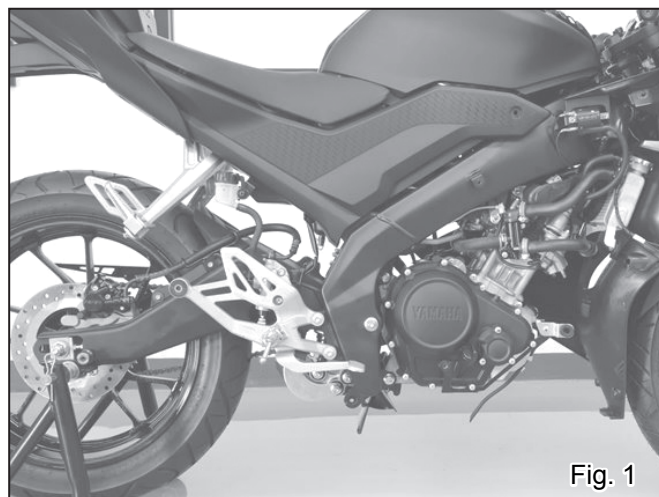

Fig. 1
- 2) According to YAMAHA service manual, remove right hand side and under fairings. Then, remove stock exhaust system from vehicle (See Fig. 1) .